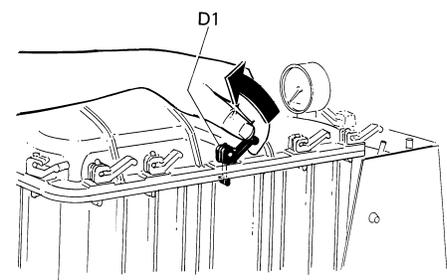

FIGURE 22
28. Separate the bowl from the cover, releasing the fastening (D1) by pulling them upwards, as shown in FIGURE 22.